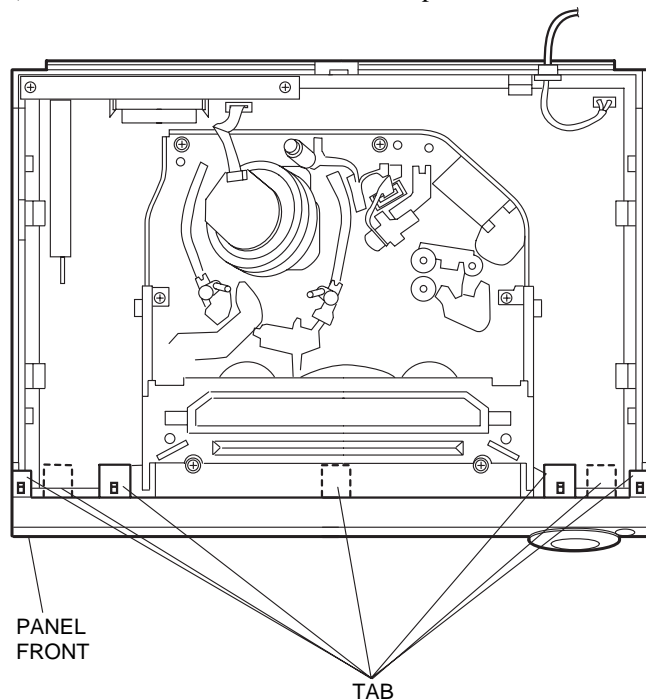

Fig. 1
2. Panel Front Removal (see Fig. 1)